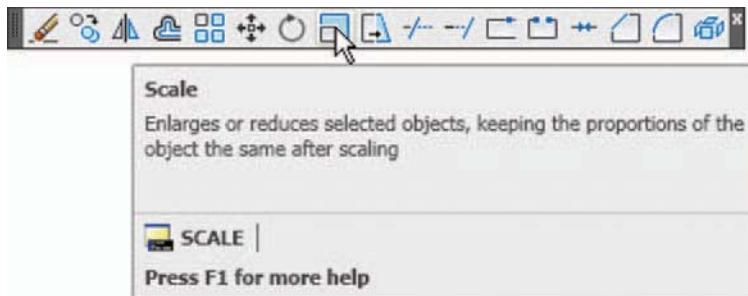

Fig. 5.28 The Scale tool icon from the Modify toolbar
- Call **Scale** – left-click on its tool icon in the **Home/Draw** panel (Fig. 5.28), pick its tool icon in the **Modify** toolbar, pick **Scale** from the **Modify** drop-down menu, or click its tool in the **Modify** toolbar, or enter **sc** or **scale** at the command line which then shows: